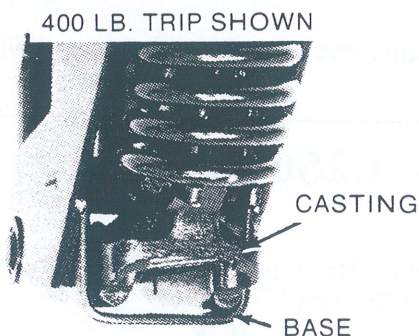

Figure 31
- (c) Tighten bolt, this will lift the casting off the base taking the pressure off the Pivot Pin. See Figure 31.